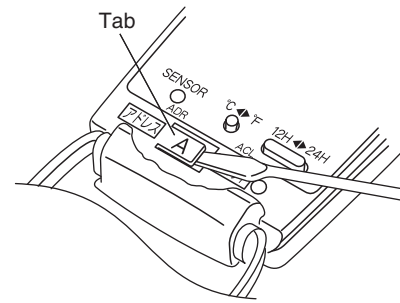
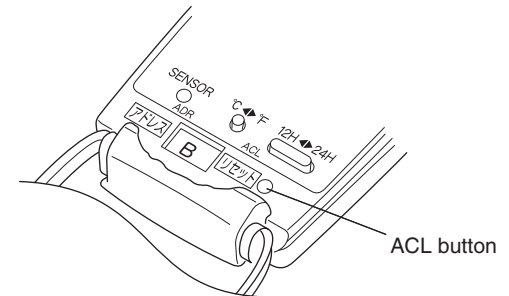

Fig. 1
Fig. 2
- (1) Switch on the power source.
- (2) Break the address-setting tab marked "A" on the second remote controller to change the address (Fig. 1). When the tab is removed, the address is automatically set to B (Fig. 2).
- (3) Press and hold the remote controller QUIET button and 1 HR TIMER button. Then, press and hold the ACL (reset) button with a pointed object such as the tip of a pen. After 5 seconds, release ACL button first, then release QUIET and 1 HR TIMER buttons, "oP-1" (test run) appears, blinking in the remote controller clock display area.